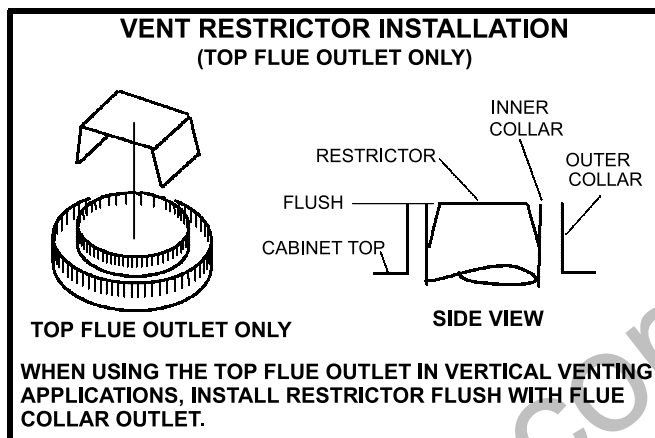

FIGURE 13
- 1 - Top Flue Applications Only: Install a vent restrictor (provided) in the flue outlet. See figure 13.